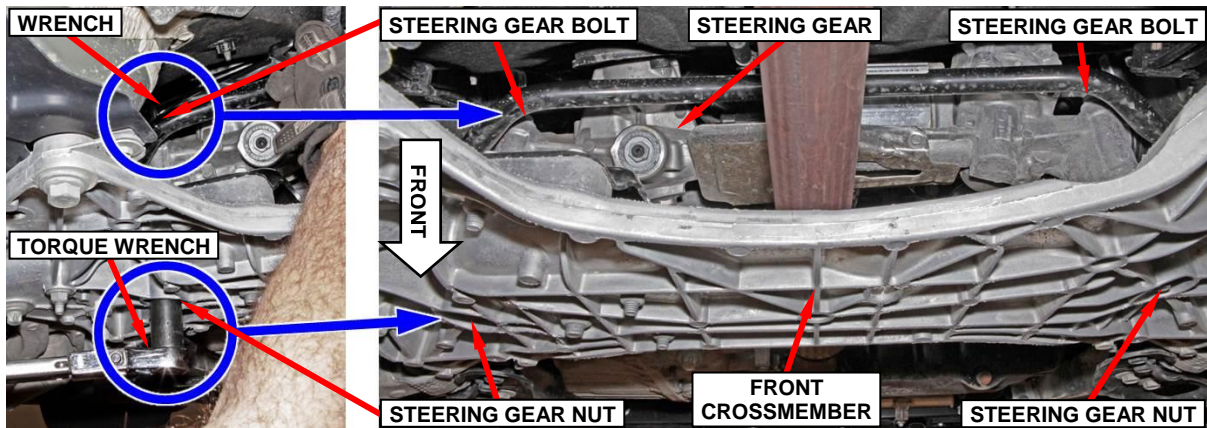

Figure 9 – Steering Gear
12. Steering gear to the front crossmember fasteners on the left and right side of the steering gear. Hold the bolt while tightening the nut to 74 ft. lbs. (101 N·m) (Figure 9).